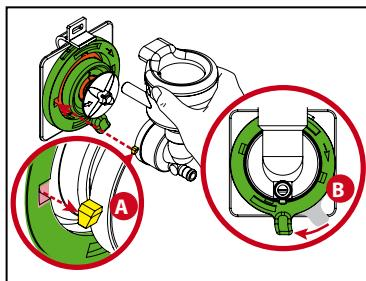

Fig.16
3. Turn the mounting plate clockwise until the mixer holes are aligned to the 3 o'clock and 9 o'clock positions. Align the guide hooks on the mixer bowl and insert them through the plate and into the chassis (A). Finally, lock the mixer bowl in by rotating the mounting plate clockwise until it complete stops turning and the tab is at the 6 o'clock positon (B). (See Fig.16)